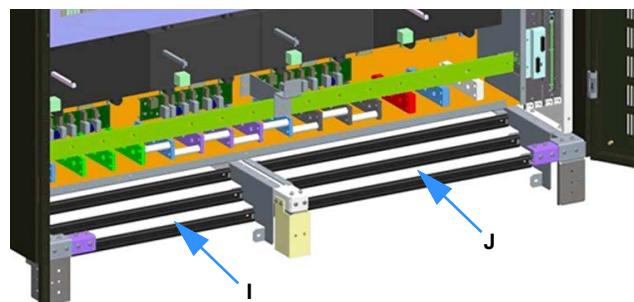

Figure 3.16
11. Fit two cable securing bars (I), (J) between the next set of lugs on profiles (A), (B), (C) as shown in Figure 3.16. Secure each bar using two M5 nuts and bolts tightened to 6.0 Nm.
Note: For reasons of clarity the cables connected to the rear and middle holes are not shown in Figure 3.16.